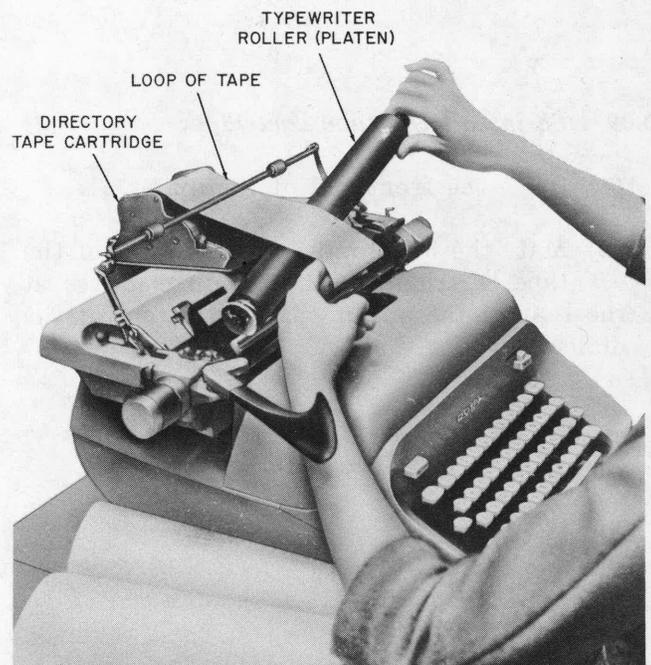

Fig. 5 — Placing Tape Cartridge in Typewriter
- (1) Remove the roller (platen) from the typewriter.
- (2) Make about a 6-inch loop in the directory tape by placing a finger through the side hole under the tape near the top of the cartridge and pulling upward.
- (3) Insert typewriter roller through this loop, Fig. 5.